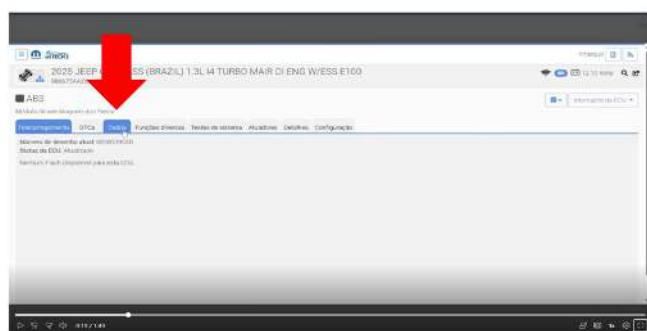

Fig. 2
- Select in the DATA function Fig. 2.